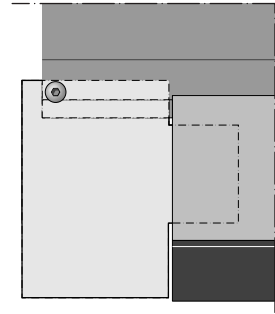

figure 2.3.3
- for speedroller Economic or Speedroller Polara with M6 flange headed screws (see fig. 2.3.3)